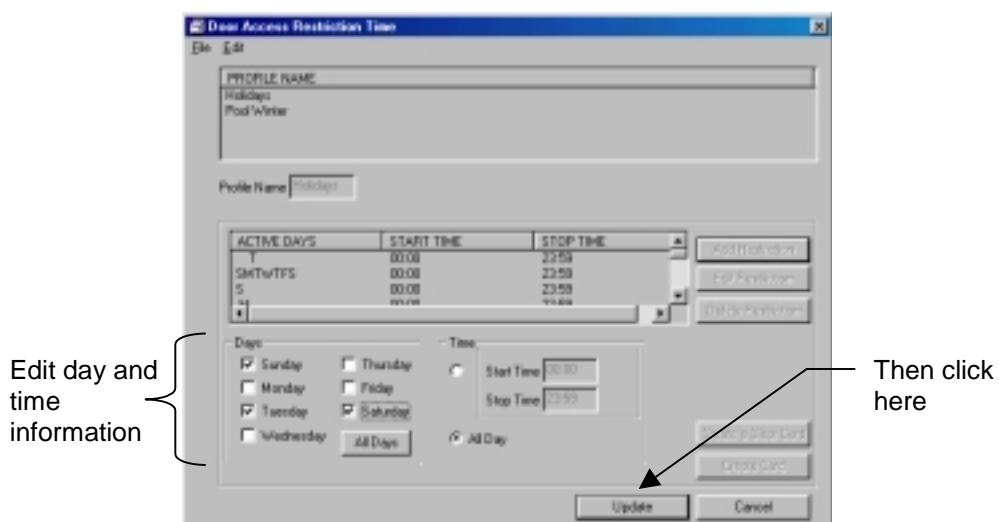

Figure 11.54 Editing a Restriction
3. Edit the restriction days and time as defined in Table 11.4 (Figure 11.54).
4. Click the Update button to save the new changes (Figure 11.54).